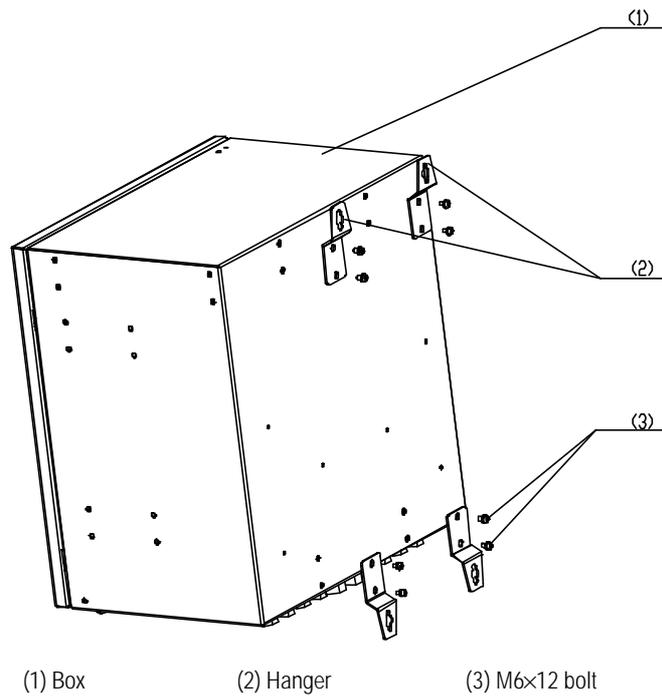

Figure A-3 Installing hanger
- 5) Use combination screw M6x12 to mount the 4 hangers on the back of the box, as shown in Figure A-3.